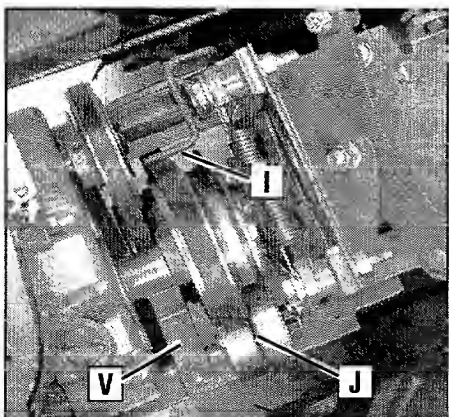

Figure 5-12: Top view of belts and pulleys.
8. Replace the forward drive belt in the High speed groove (groove closest to engine) or the Low speed groove (rear-most) groove of the engine drive pulley and in the matching groove of the transmission pulley. Be sure the belt is to the inside of the wire formed belt guide (I, Figure 5-12) and to the inside of the forward drive idler pulley (J).
2. Slip the forward drive belt down between the rear of the engine forward drive pulley (D, Figure 5-16) and feed the bottom half in between the engine and transmission pulleys (see Figure 5-17). Be sure that the belt is to the inside of the forward idler pulley and forward belt guide (see J and I, Figure 5-12).
3. Slip the forward drive belt down and over the front of the transmission pulley (C, Figure 5-16). NOTE: For additional working room, loosen the reverse belt guide (V, Figure 5-12) and twist it out of the way.
**IMPORTANT:** Make sure that the forward drive belt is to the inside of the wire belt guide (I, Figure 5-12) and the forward idler pulley (J, Figure 5-12).
3. Place the belt to the inside of the reverse idler pulley (D, Figure 5-18) and the reverse belt guide (V, Figure 5-12). Then slip the upper end into the groove of the engine reverse pulley (A, Figure 5-18).
4. If the reverse belt guide (V, Figure 5-12) was loosened previously, center the belt guide on the belt and tighten the mounting screw securely.